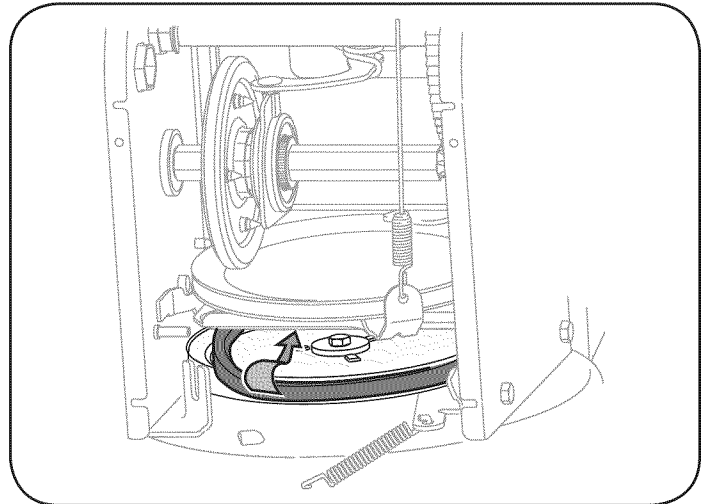

Figure 26
7. Remove the belt from around the auger pulley, and slip the belt between the support bracket and the auger pulley. See Figure 26.